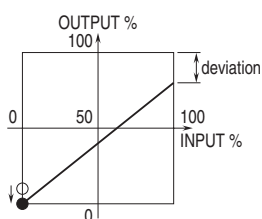

Fig. 7
3) With 0% input, adjust the output to 0% with Zero adjustment. See Figure 7.